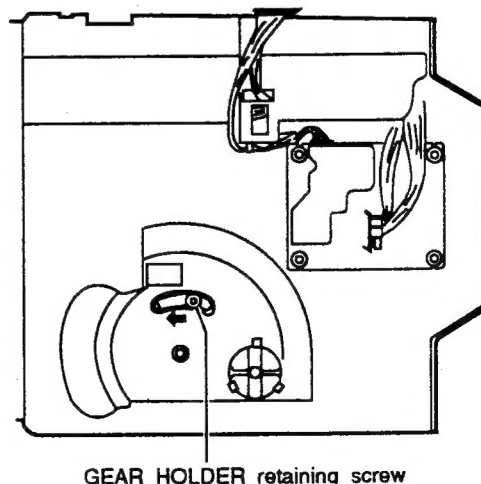

Fig. 3-8
- 3) If the TRAY BLOCK is at the "in" position, slide the GEAR HOLDER retaining screw in the direction of the arrow and pull out the TRAY BLOCK slowly (refer to Fig.3-8).